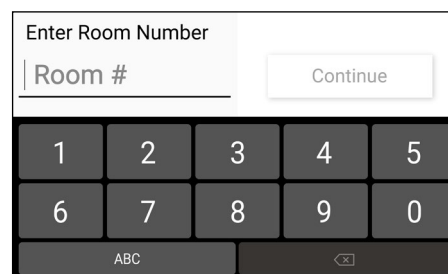

Figure 35. Enter patient weight screen
1. The Guardian 2.8 General Use Systems will alert the user if the user does not interact with the enter a room number screen for five (5) minutes. (Fig. 35)
2. It will continue to display the enter room number screen with red status lights and an auditory alert. The auditory alert will last for three (3) minutes.